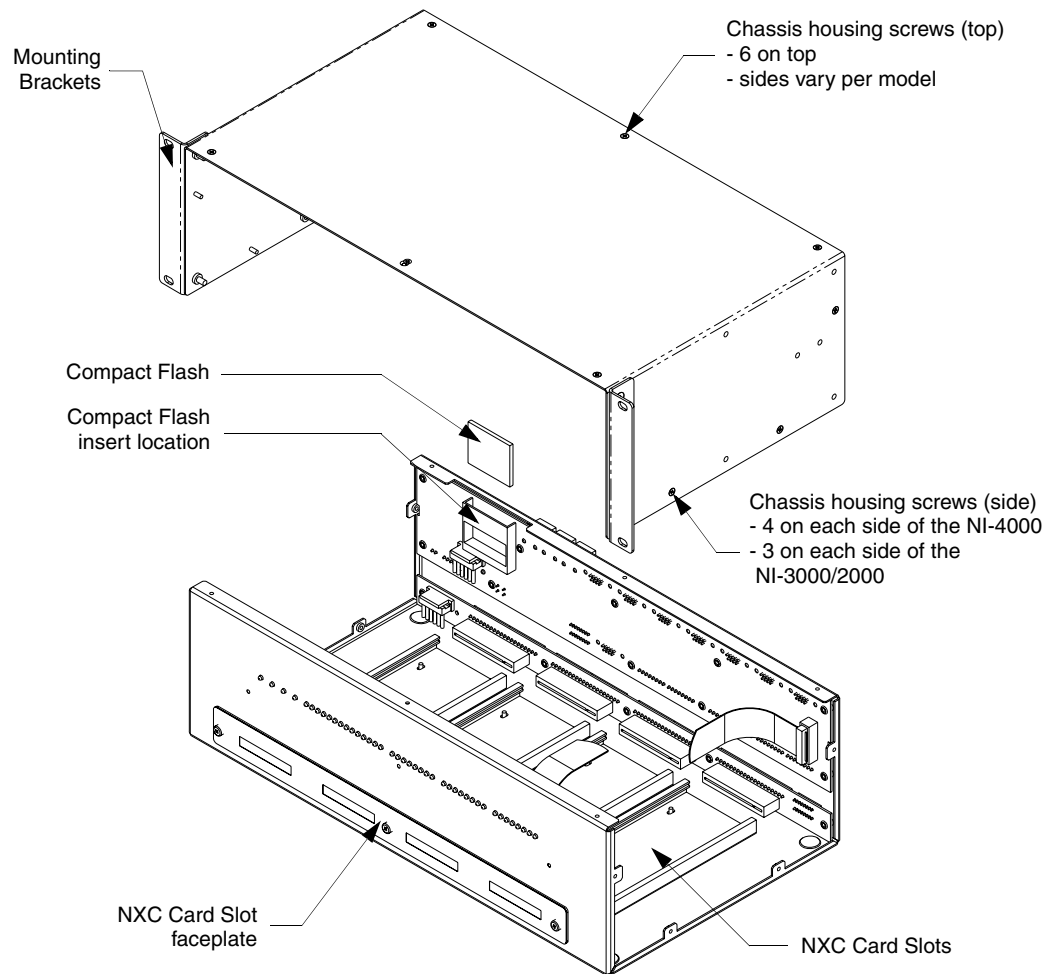

FIG. 21 Location of the Compact Flash within a sample Integrated Controller
2. Remove the chassis housing screws from both the sides and top of the Controller, as shown in FIG. 21 by using a grounded screwdriver turning in a counter-clockwise rotation.
3. Carefully pull-up and remove the housing up and away from the Controller to expose the internal circuit board (FIG. 21).
2. Locate the 32 MB Compact Flash card on the main board. For more detailed information on component locations, refer to FIG. 21.
3. Insert the chassis housing screws into their respective locations, as shown in FIG. 21.